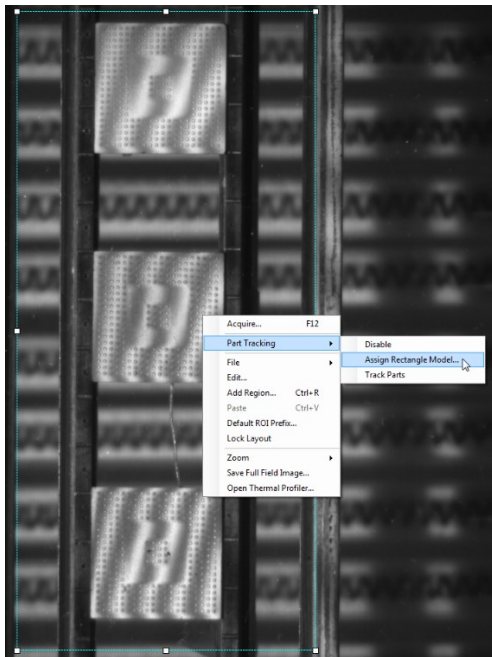
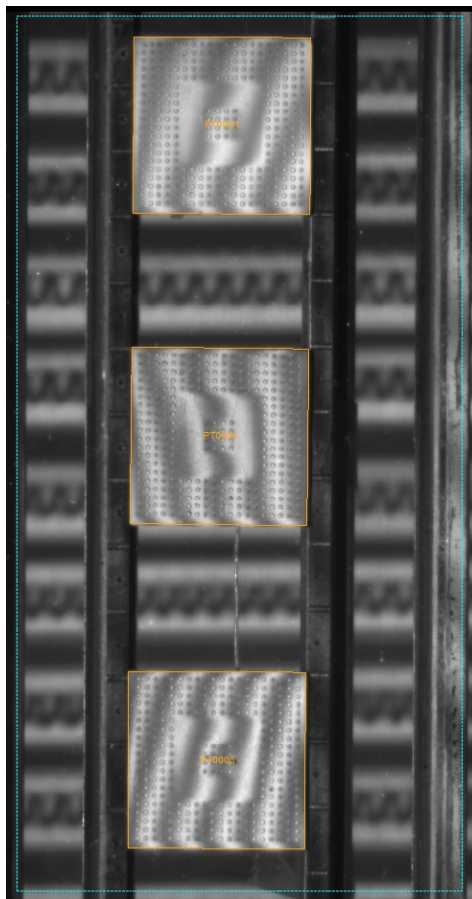

Figure 2.53 Assign Model
Figure 2.55 Tracked Parts
3. Size the blue, dotted-line search area such that it contains all parts that will be tracked. Right click inside this ROI and select 'Assign Rectangle Model' (**Figure 2.53**).
Note: Instead of immediate acquisition, which may incur a large processing time with large numbers of parts, the user can check part tracking settings by right-clicking on the camera context window and selecting the 'Track Parts' option shown in **Figure 2.53**. The currently tracked parts will be shown outlined in orange as shown in **Figure 2.55**. The same tracking display will be seen after a normal acquisition with Part Tracking enabled.